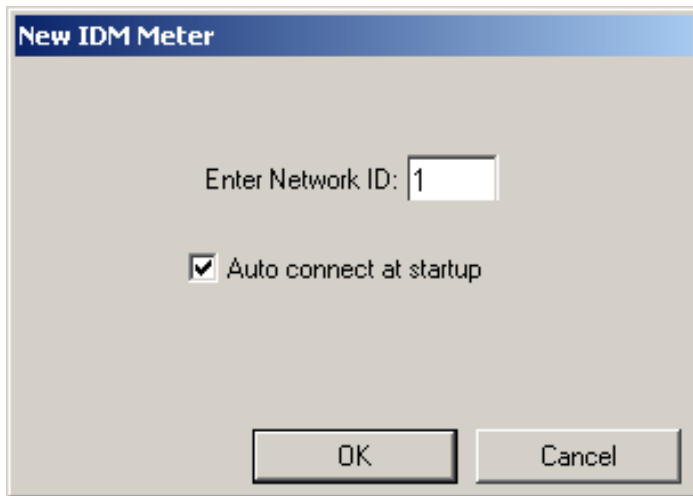

Figure 36: New IDM meter screen
4. The *new IDM meter* screen (see *Figure 36* below) opens. Enter the network ID number for the meter, and click [ok].